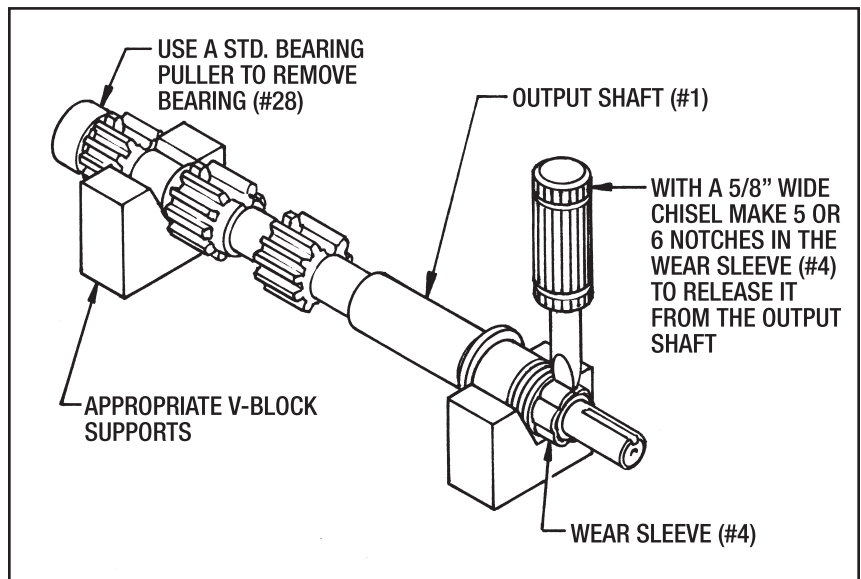

Figure 7.7 - Removing Wear sleeve (#4) from the Output shaft
7. Procedure to remove the Wear Sleeve (#4) from the Output Shaft (#1). (See Figure 7.7)